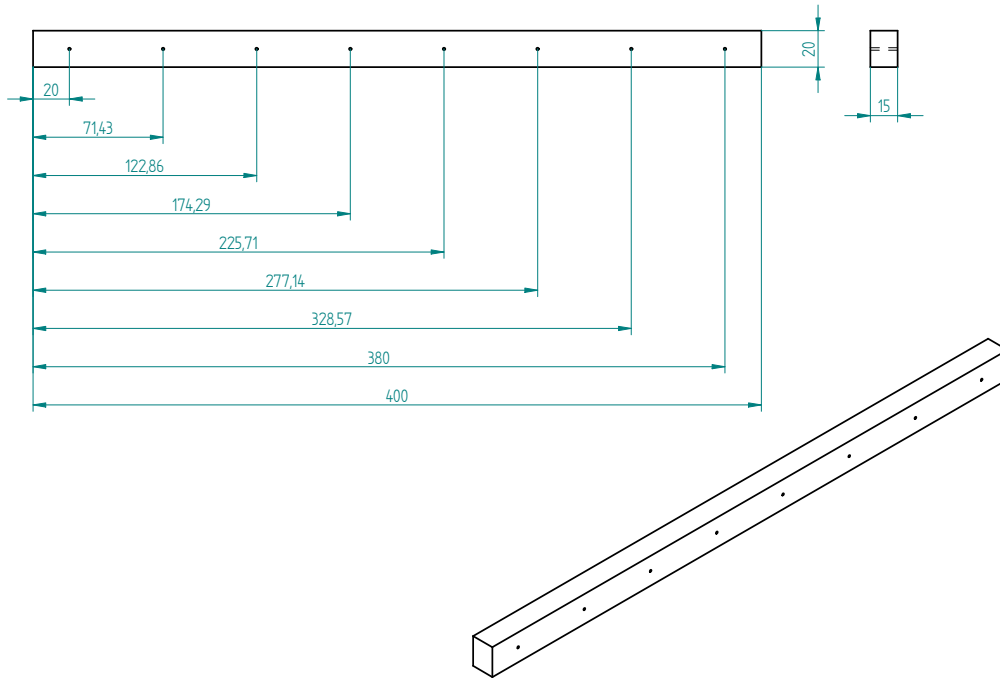

Figure 3.2: Shaped part : **guide** for **perpendicularator** tool
2. ask at the carpentry to cut it at the good length (see the length on the figure 3.2, page 82) ;
3. drill the holes with diameter 1.4mm (see figure 3.2, page 82 for the positions).
**Drawing** See figure 3.2, page 82